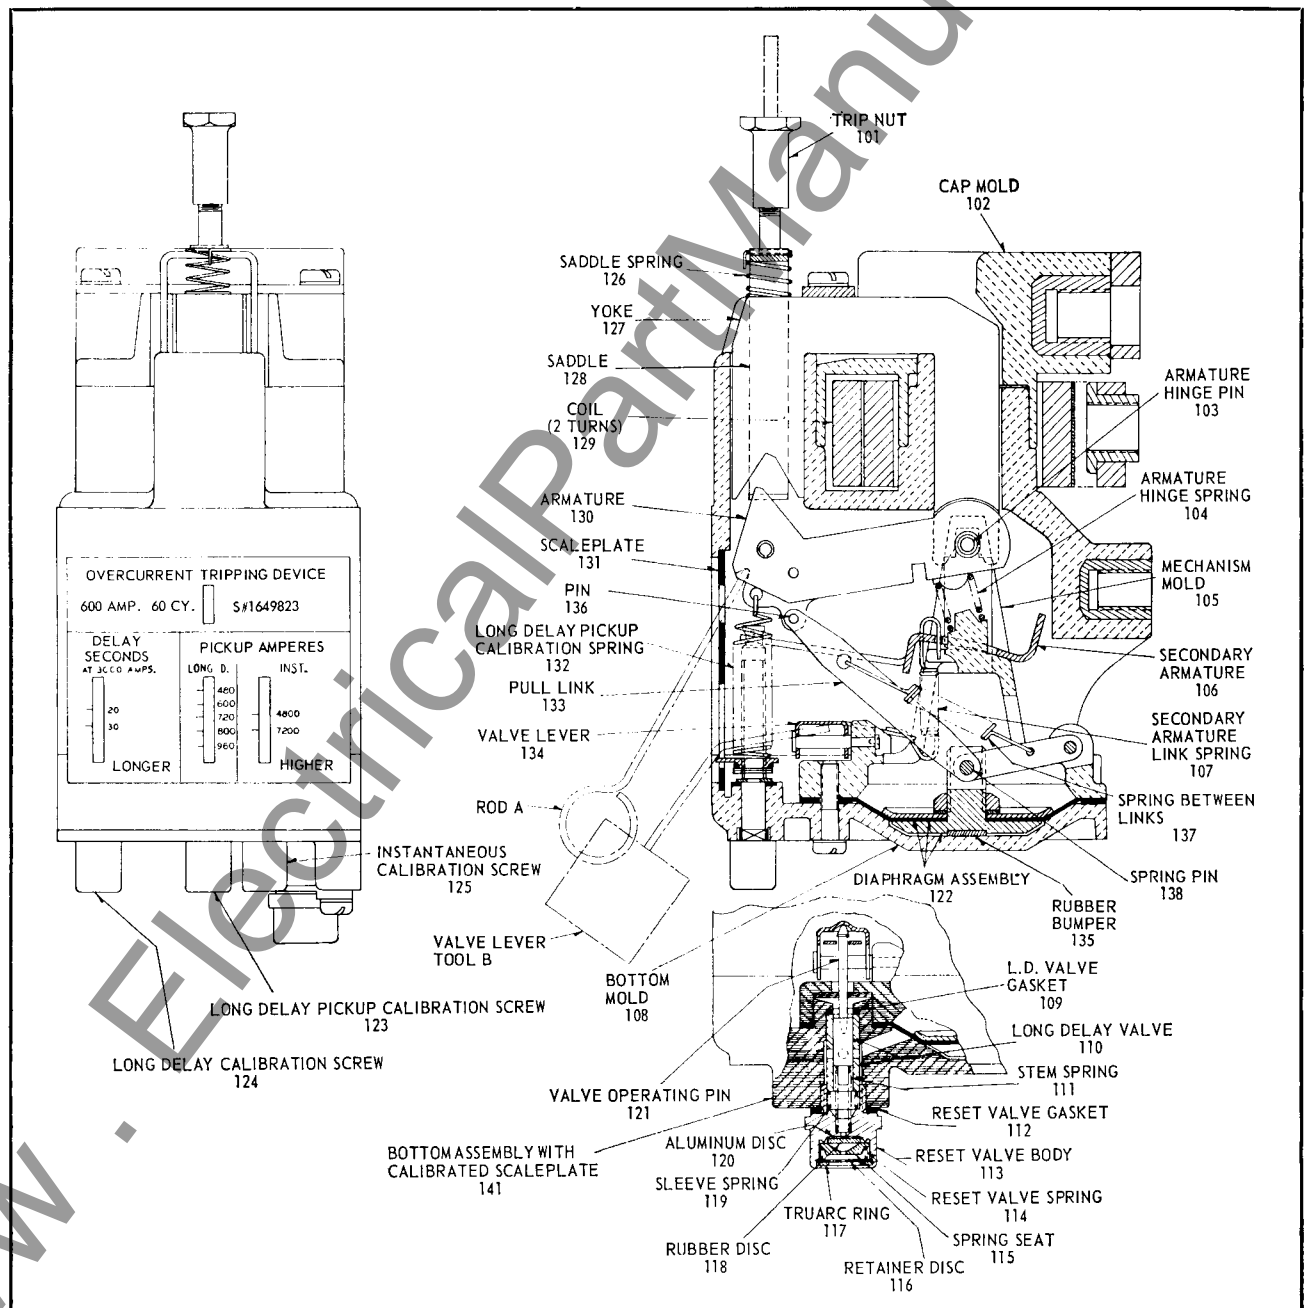

FIG. 6A. Overcurrent Tripping Device—Construction Details
**Construction.** The overcurrent tripping device is of the air delayed type with all elements adjustable. The adjustment knobs or parts likely to be touched while making adjustments of time or pickup current are electrically insulated. Fig. 6A shows a typical overcurrent tripping device ready for mounting on a breaker pole unit.
To adjust the trip nut for proper tripping, first insert valve lever tool "B" or a 1/16 diameter rod, in the long delay calibration bracket (left slot) and raise the valve lever to its maximum position. This removes all of the time delay and permits the armature to operate easily. Then insert the push rod "A" Fig. 6A in the top slot of the calibration bracket and push the armature solidly against the yoke; close the breaker and adjust the trip nut to